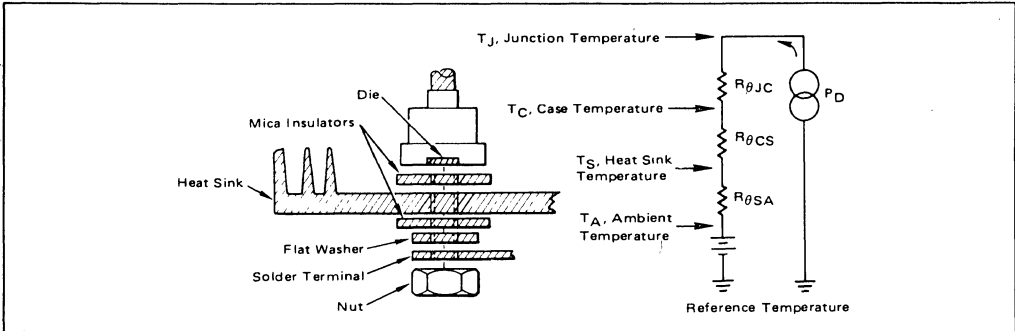

FIGURE A1 – Basic Thermal Resistance Model Showing Thermal to Electrical Analogy for a Semiconductor
An analogy between Equation (2) and Ohm's Law is often made to form models of heat flow. Note that ΔT could be thought of as a voltage; thermal resistance corresponds to electrical resistance (R); and, power (q) is analogous to current (I). This gives rise to a basic thermal resistance model for a semiconductor as indicated by Figure A1.